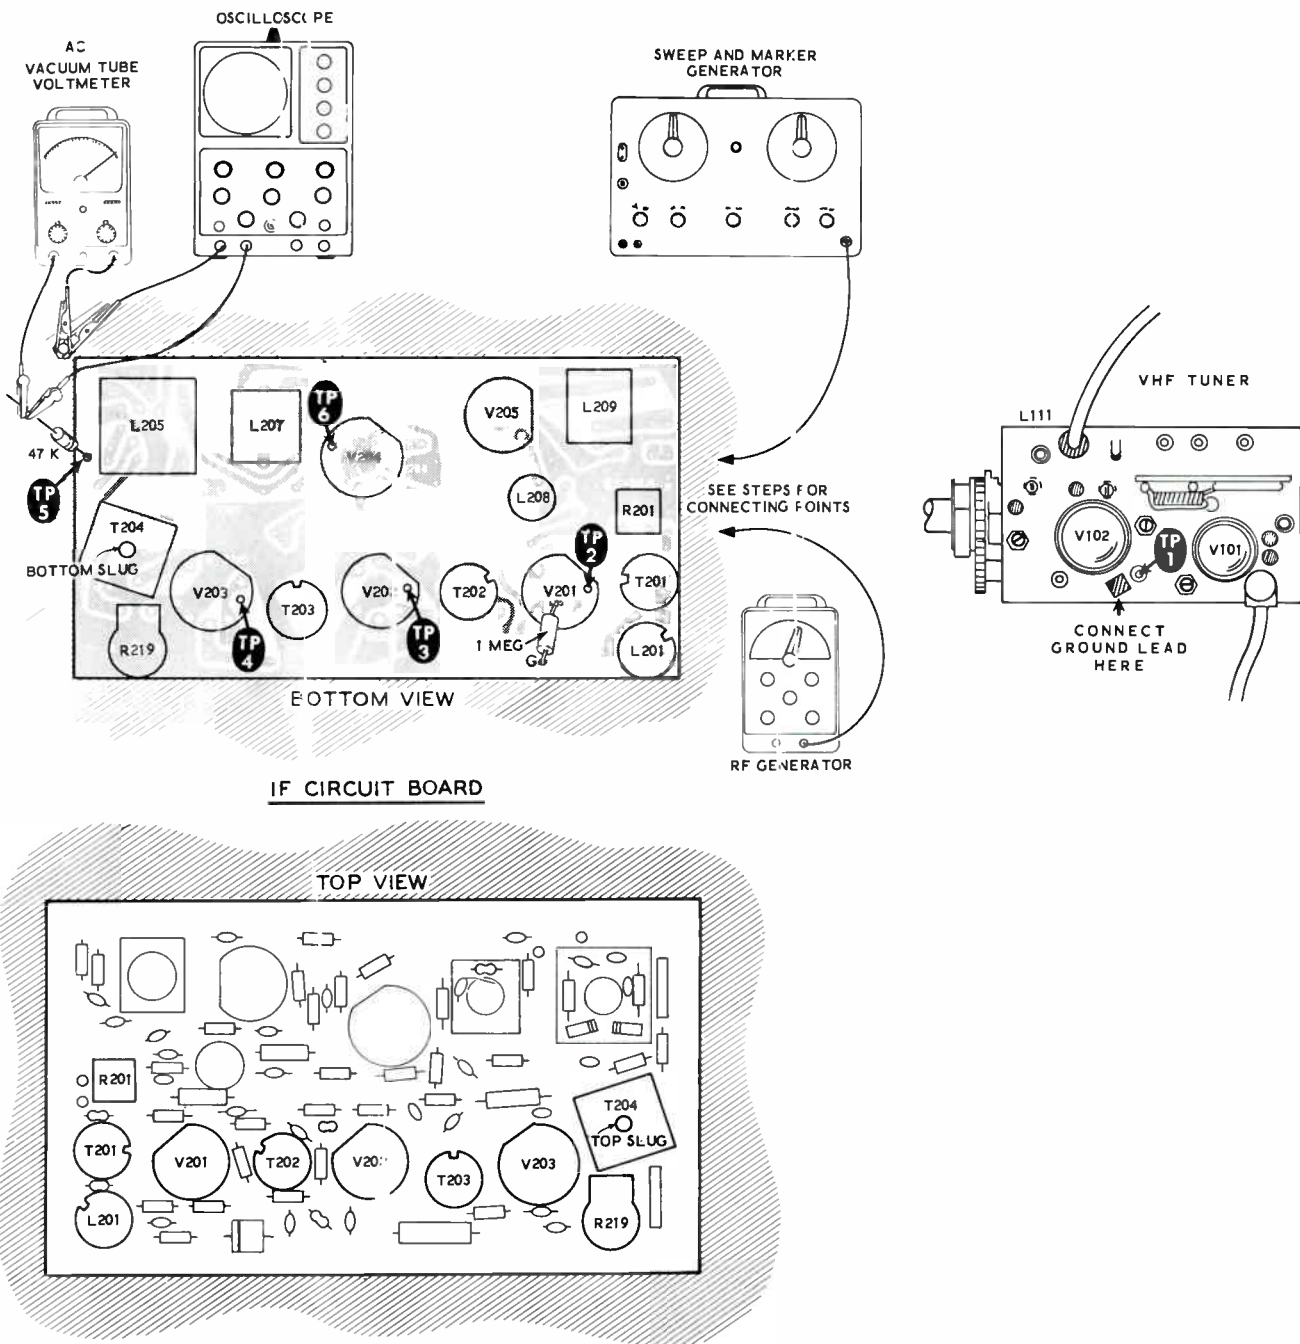

Figure 4-2
## VIDEO IF ALIGNMENT (FIGURE 4-2)
- ( ) Remove the sweep generator lead from TP8 and connect it to TP5 on the IF circuit board (see Figure 4-2). Reduce the output of the generator.